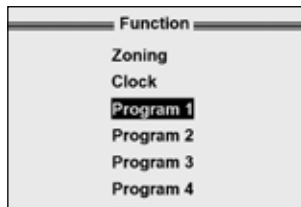

Figure 15.
- b) Use the ▲ or ▼ button to select the program to be modified, and then press ✓ button to enter into its sub menu. (Figure 15).